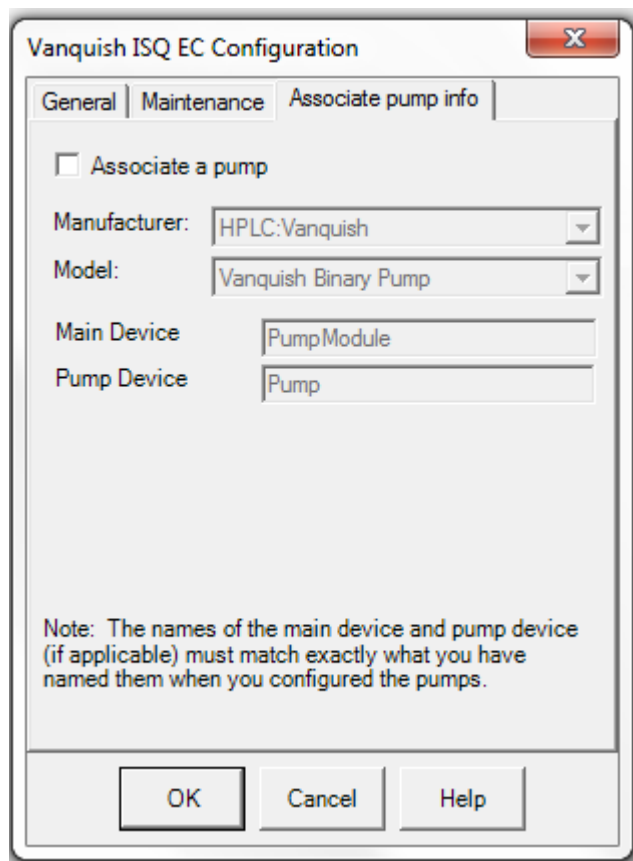

Figure 71: MS configuration – Associate Pump Info Tab
- 26) Select the **Associate Pump Info** tab to associate a pump or change pump types. See Figure 71.